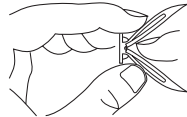

Figure 9 - Folding Anchor
2. Fold wall anchor as shown in Figure 9.